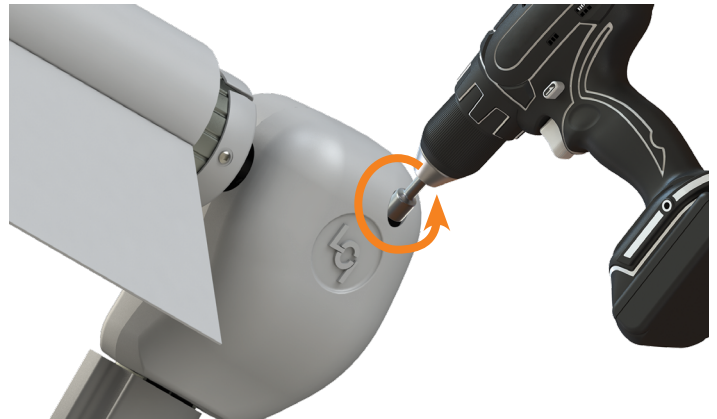

Fig.16
2. Using a $\frac{7}{16}$ " socket and cordless or electric drill or screw gun, spin the manual override nut counterclockwise to retract the awning (Fig.16).